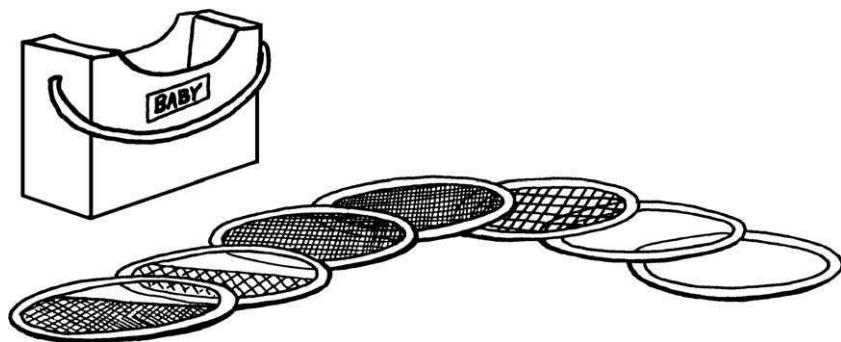

Figure 2.1 Complete scrim set with box. The set includes (from left to right) a half double, half single, two doubles, a single, and a set of gel frames.
- ☐ Check that each light is complete. Each must have a full set of scrims, a scrim box or bag, and barn doors. Count the scrims. A complete five-piece set includes two doubles, one single, one half double, one half single, and one gel frame (Figure 2.1).